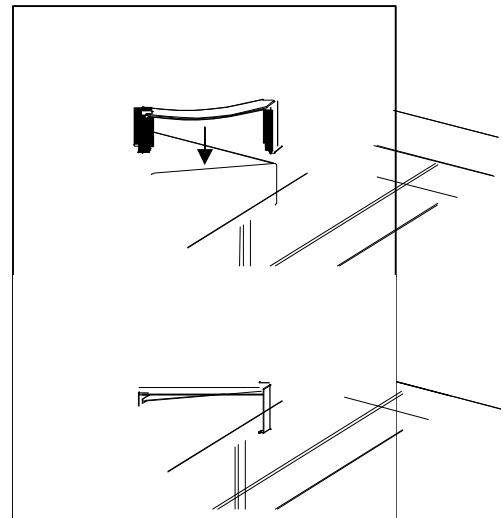

Fig. 19
19. Install the corner protectors by carefully bending the ends to fit around the frames. Fig. 19